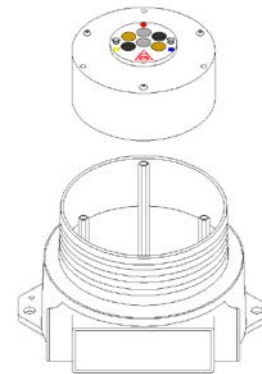

Figure 2-8
- Slide the Detector Module puck out of the enclosure base (see Figure 2-8).